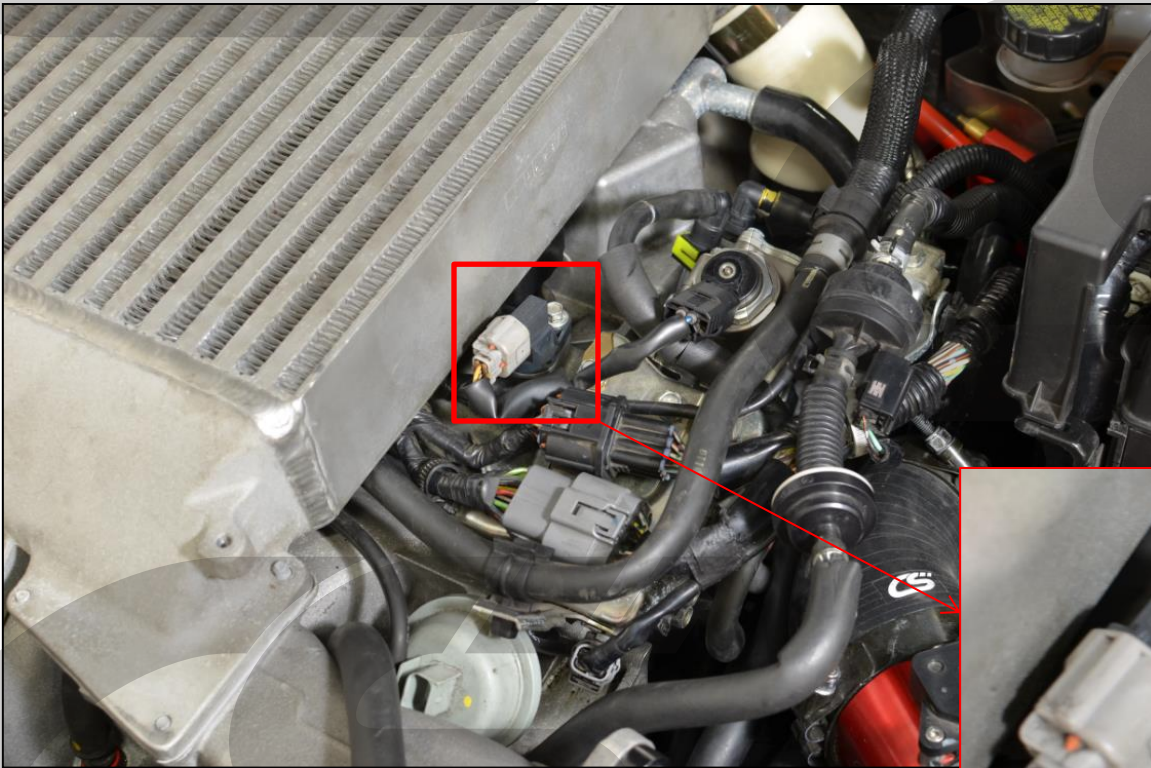

Figure 5a
- a) Remove the bolt holding the camshaft position sensor. Use an 8mm socket and ratchet to remove the bolt shown with the red circle in Figure 5a.